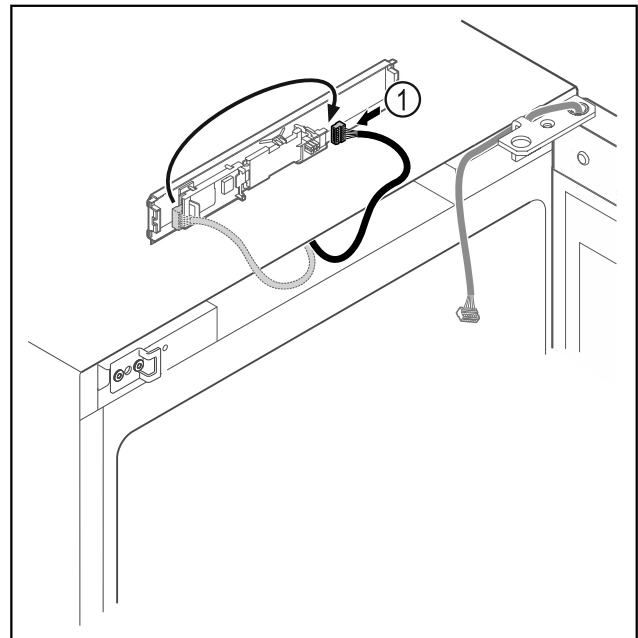

Fig. 21
- Connect the plug Fig. 21 (1) to the circuit board.